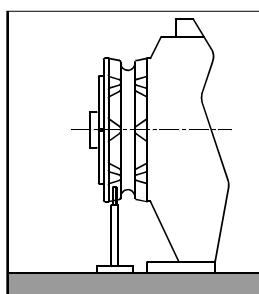

Fig. 1
2. In the case of horizontal shaft anchor windlasses (see Fig.1), drill the hole in the outer circumference of the gipsy.